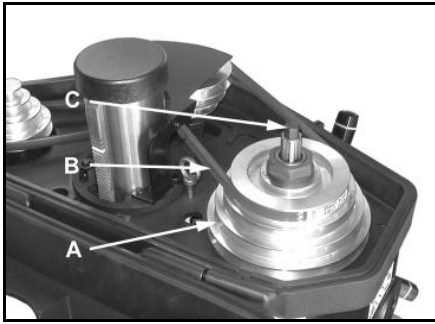

Fig 9
Hold the spindle pulley (B, Fig 9) to keep the pulley from moving while loosening the drawbar (C) with a wrench.